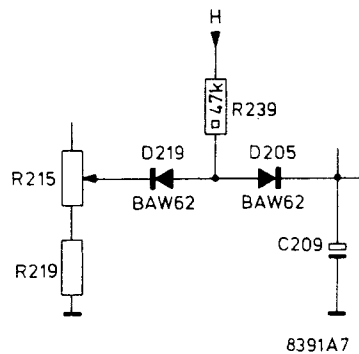

Fig. 1
11. Modified : The lock-in circuit of the head servo on panel 20 has been modified as shown in Fig. 1 of this information.